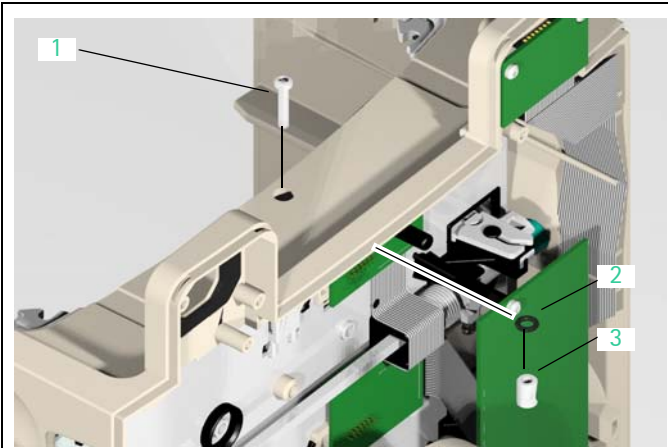

Abb.: 3 - 12
3. Pull the module lock sleeve (Abb.: 3 - 12 / Item 3) out of the housing.
4. Check the O-ring (Abb.: 3 - 12 / Item 2) for damage, and remove it out of the housing if necessary.
Legende zu Abb. 3 - 12: